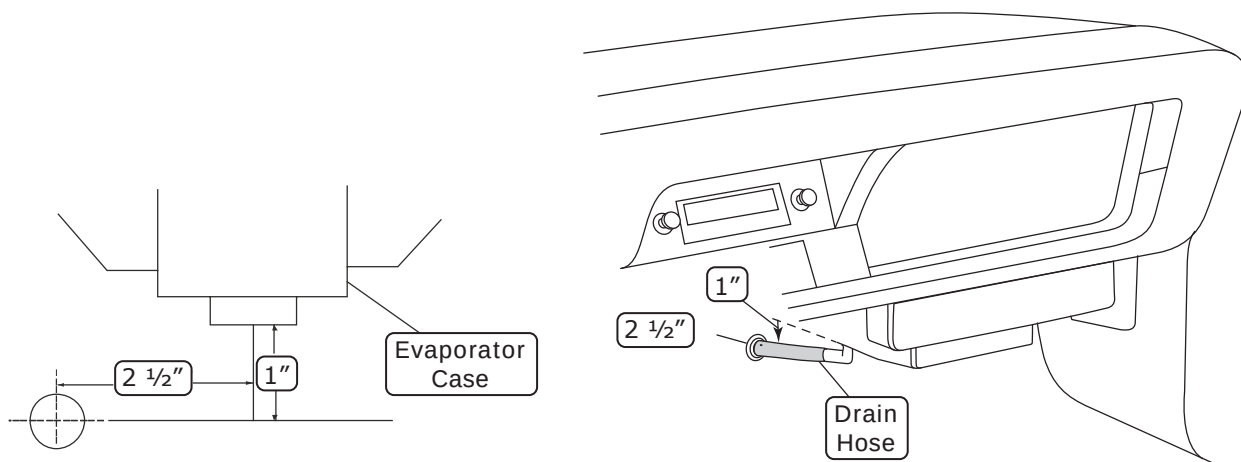

Figure 1
2. In line with the drain, lightly make a mark on the firewall. Measure 1" down and 2 1/2" to the left, then drill a 5/8" hole through the firewall (See Figure 1, below).
3. Install the drain hose to the bottom of the evaporator module, then route it through the firewall (See Figure 1, below).
1. Locate the #8 compressor A/C hose. Lubricate (2) #8 O-rings (See Lubricating O-rings, Page 13), and connect the 45° female fitting with 134a service port to the #8 discharge port on the compressor. Then route the 90° female fitting to the #8 condenser hardline coming through the core support (See Figure 1, Page 19). Tighten each fitting connection.